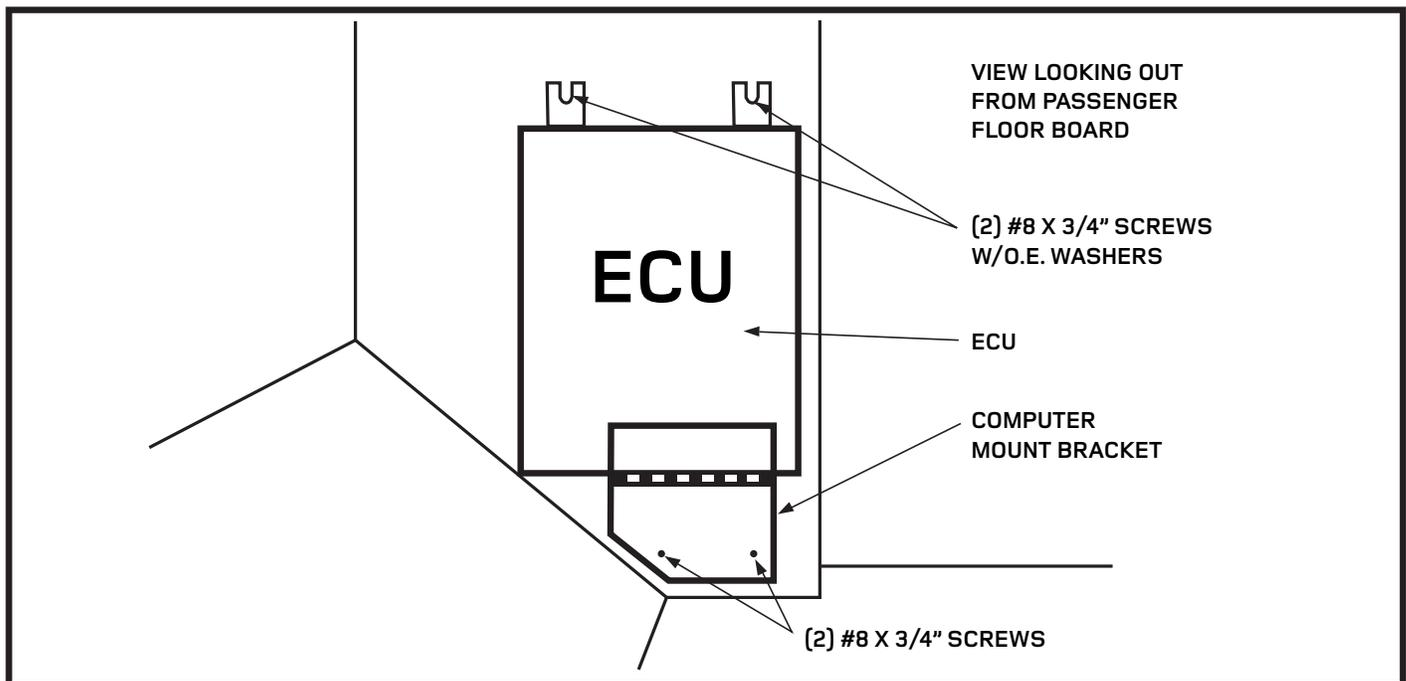

FIGURE 9
Mount bracket using two (2) #8 x 3/4" sheet metal screws (see figure 9 below).